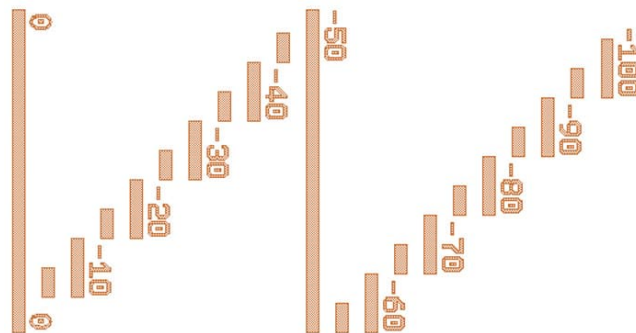

Figure 11: Polishing ruler details
- Each ruler with 5 μm divisions from at least 0 to -100 μm (see figure 11).